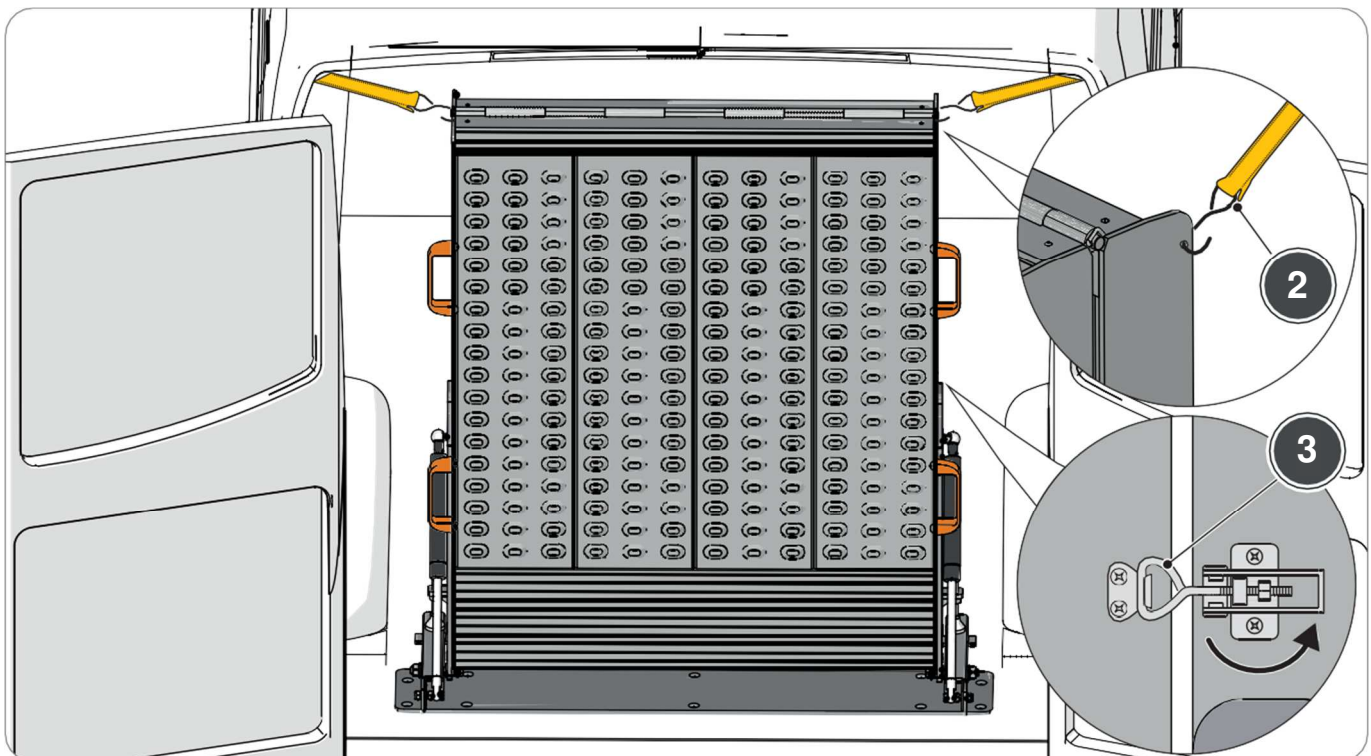

Fig. 2.16
ATTENTION: After use, secure the ramp with the safety locks (8 and 9, if present). Close the ramp and replace the safety catch (3, Fig.2.16).
Attach the supplied safety straps (2) (Fig.2.16).